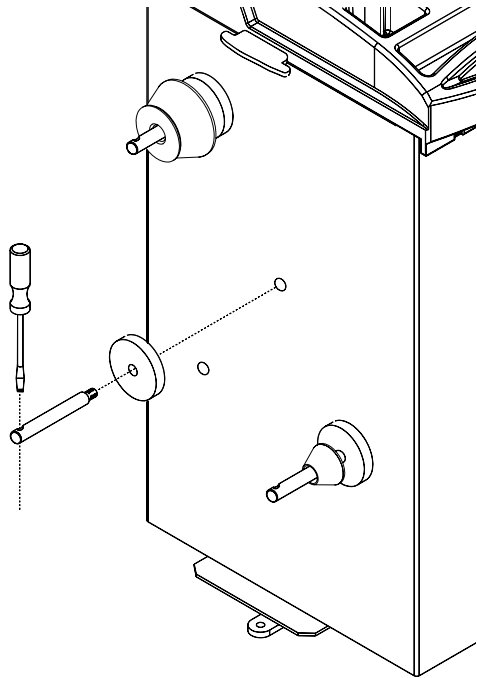

Figure 7
**C.** Install the accessory pins (Figure 7). Tighten firmly.